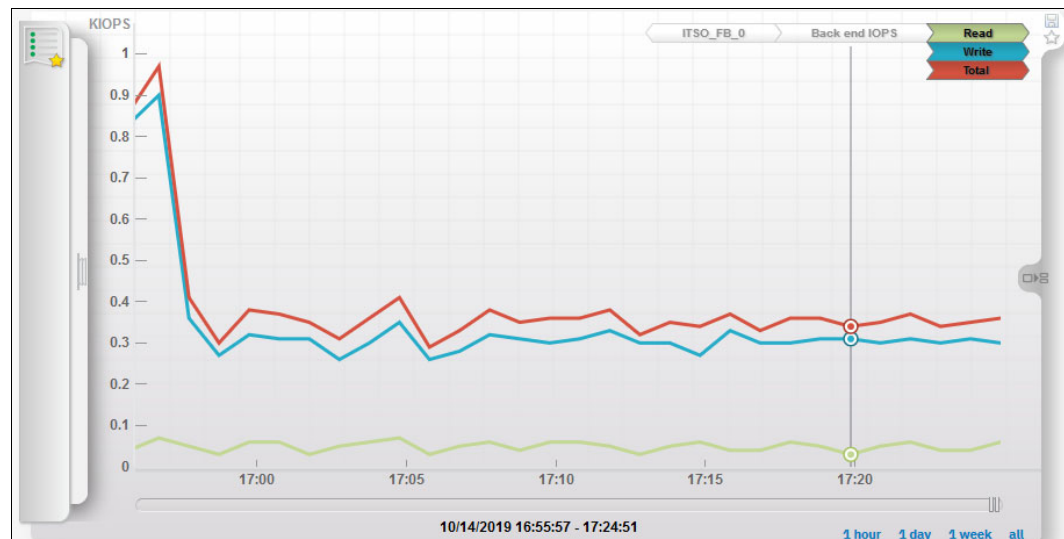

Figure 9-113 Pool performance graph
4. Draw the graph, which is shown in Figure 9-113.